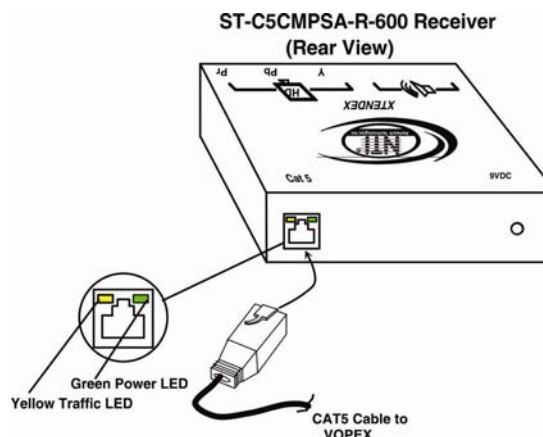

Figure 10- Connect the CAT5 cable to the Receiver
4. Connect the remote user's speakers to the 3.5mm female stereo connector on the Receiver (see Fig. 10).
5. Make sure the CAT5 cable has been installed in accordance with the "Preparation for Installation" instructions on page 5. Connect the CAT5 cable to the "Cat 5" port on the Receiver. (See Fig. 10) When properly inserted the CAT5 cable end should snap into place.